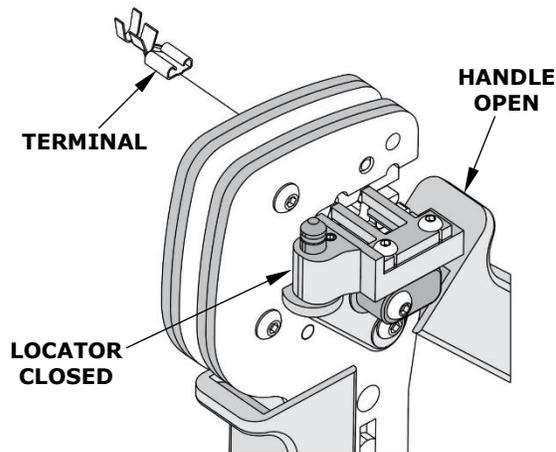

Figure 5
2. Some terminals with large insulation grips may interfere with the crimp tooling when swinging the locator into position. This terminal must then be loaded into the locator in the closed position. See Figure 5.